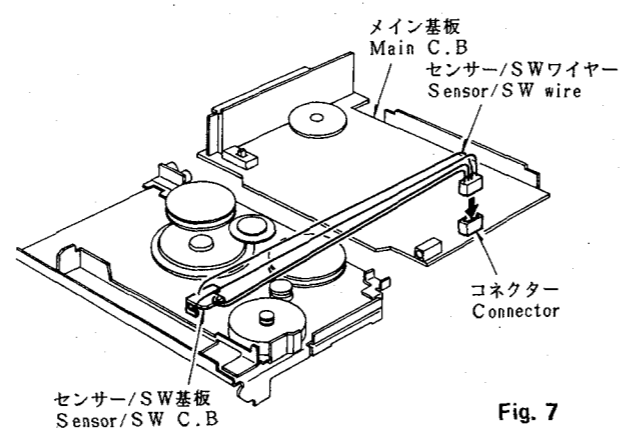

Fig. 7
- 4) Turn over the main circuit board. (See Figure. 7)
- 5) Reconnect the sensor/SW wires to the connector. (See Figure. 7)